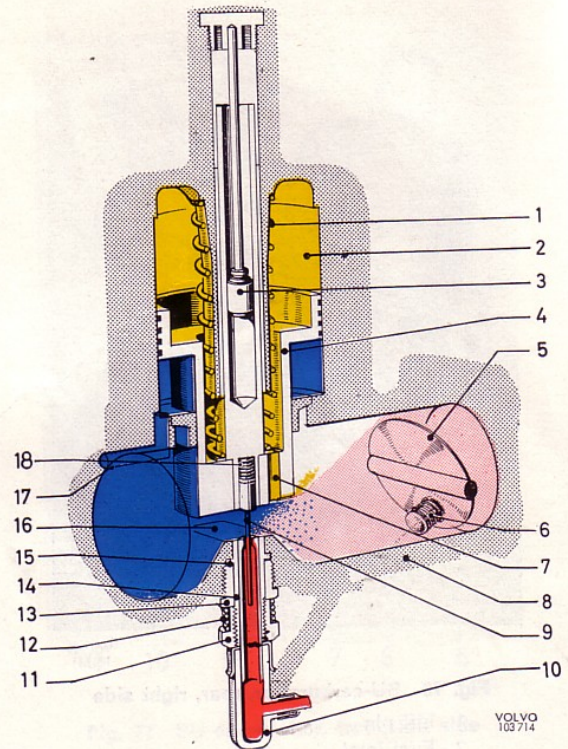

Fig. 83 Carburettor, function
The air flow passing through the carburettors when the engine is running increases in speed on passing through the constriction known as the bridge (16, Fig. 83).
When the air valve (4, Fig. 83) lifts, the damper plunger (3) is forced against its seat and oil is prevented from flowing past the lower side of the damper plunger from the upper side, and this retards the movement of the valve (4). A more powerful vacuum is temporarily obtained above the jet so that the fuel-air mixture becomes for the moment richer.
The fuel/air mixture is adjusted with the adjusting nut (11, Fig. 83) at the jet and adjustment is carried out at idling speed to cover the entire speed range.